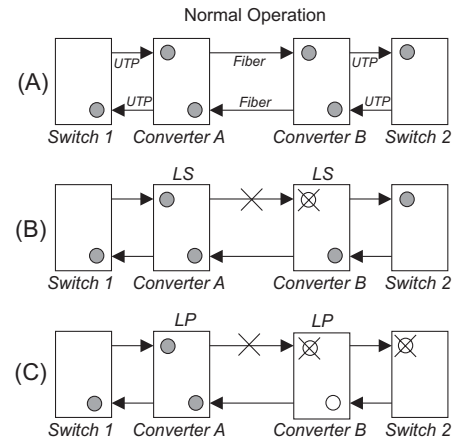

Figure 2: Link Modes
**Link Segment (LS)**
"LS" (factory default) generates and detects a link signal at each point in the network. Utilizing this configuration, a loss of a receive link signal will only affect the port detecting the loss of signal. All the other ports will continue to generate a link signal. Figure 2(A) indicates the normal operation of the system without faults. Figure 2(B) indicates a loss of a receive link on the fiber optic port, the UTP port continues to maintain its link.
**Link Propagate (LP)**
"LP" generates (transmits) a link signal only when a link signal is detected. Utilizing this configuration, a loss of a receive link signal will continue to 'propagate' through to the next port in the network. In Figure 2(C), a loss of a receive link on the fiber optic port causes the UTP port to drop its link due to the propagated fiber optic link state. This setting allows the loss of a link to be detected by SNMP or other managed network devices to which the *miConverter* 10/100 Plus is connected.
"RFD+LS" generates a link signal only when a link signal is detected. However, instead of propagating the fault forward, the loss of link is looped back. In Figure 2(D), a loss of a received link state is looped back causing the port to stop transmitted the link state. Because the other unit is configured for Link Propagate, the UTP port will drop its link due to the propagated fiber optic link state.
"SFD" generates a Link Loss signal on all ports on both media converters when a loss of link signal is detected by one of the ports. In Figure 2(E), the pattern of LEDs gives an indication of the failure point.